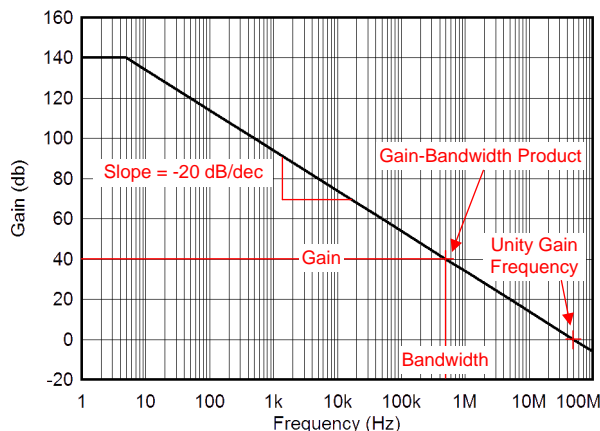

图 53. Gain-Bandwidth Product and Unity Gain Frequency
The parameters of an amplifier the best describes the small signal dynamic behaviour are the gain-bandwidth product (GBP), unity gain frequency (UGF) and phase margin (PM) of an amplifier. The GBP is a useful parameter to determine the bandwidth of an application in closed loop configurations. 公式 3 can be used to approximate the closed loop bandwidth for the OPA828. Typically the GBP is a specified parameter with the amplifier configured in a non-inverting gain of 100 (40 dB). The GBP of an amplifier is generally assumed to be constant over frequency but in some higher speed amplifiers this is not always the case. The OPA828 has a constant GBP all the way to its UGF, as such the OPA828 open-loop gain has a constant -20 dB/decade slope (-6 dB/octave). The UGF is defined as the frequency at which the gain of the amplifier crosses 1V/V (0 dB). 图 53 illustrates the concept of GBP and UGF. The OPA828 has both a GBP and UGF of 45 MHz.